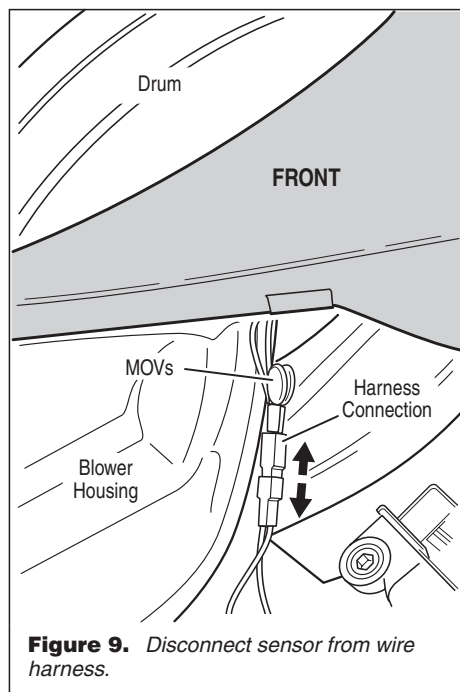
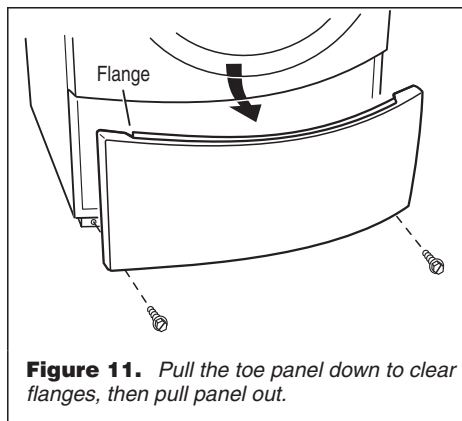

Figure 9. Disconnect sensor from wire harness.
Figure 11. Pull the toe panel down to clear flanges, then pull panel out.
- Access the moisture sensor wires by removing the toe panel (figure 11, page 7) and disconnecting the sensor wires from the harness (figure 9). Go to step 8.
6. Access the moisture sensor by removing the toe panel. See Removing the Toe Panel, page 7. Disconnect the sensor from the wire harness. See figure 9.
3. Slide the toe panel down, then pull it out from the bottom. See figure 11.